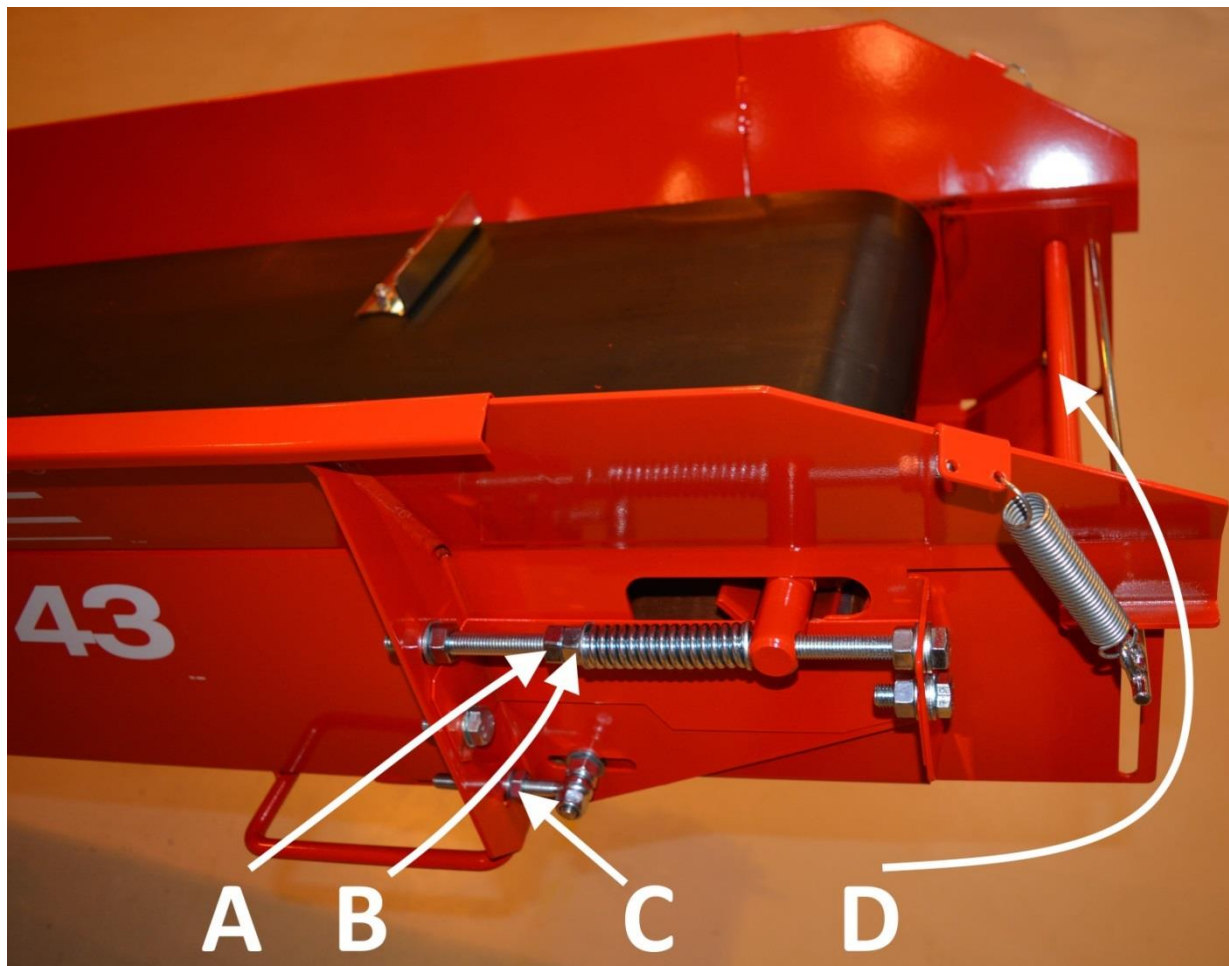

Figure 24.
1. Loosen fastening nut A (Figure 24).
2. Tighten/loosen the belt with nut B in Figure 24 (the same amount on both sides of the belt). If the belt is crooked, loosen nut B (in relation to the spring) on the side towards which you wish to align the belt better.
3. When the conveyor belt is at the correct tension and properly aligned, tighten the fastening nuts (A) on both sides.
The following things significantly affect the operation of the debris removal device: the angle of the out-feed conveyor, the speed of the belt and the distance of separation plate D (Figure 24) from the upper roller of the conveyor. In other words, the debris separation result is better the steeper the angle (however, no more than 40 degrees), the lower the speed and the longer the distance between separation plate D and the upper roller. The distance of separation plate D is optimised at the factory in conjunction with the testing of the machine. However, the adjustment can be changed with adjustment screw C (2 pcs, Figure 24), if necessary.